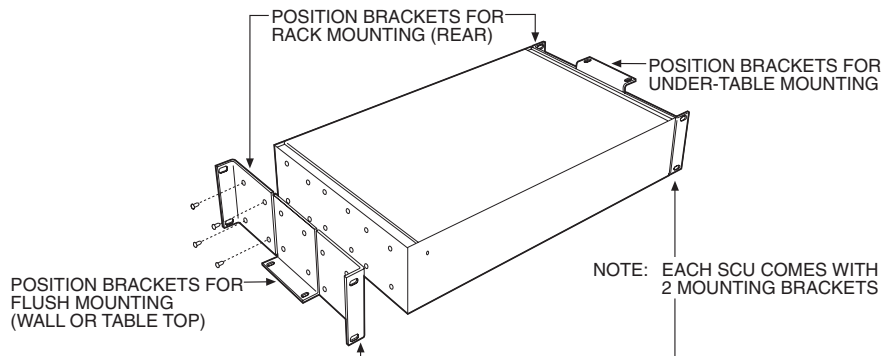

**Figure 6. DIP Switch Locations**
3. Refer to Figure 6. Set DIP switches.
You will need to use the COM 2 port if your system includes an ASCII control device, such as a personal computer or a keyboard that is connected via dial-up lines or fiber optic network. The port interface at COM 2 can be either RS-232 or RS-422/485. The DIP switches should have been set (refer to Figure 6).